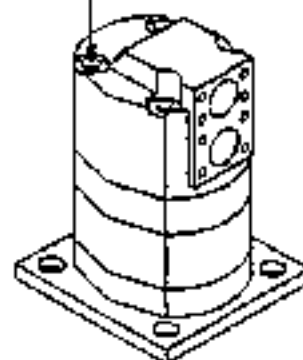

Figure 54
13. Hold the end housing firmly in place and install the four nuts. Torque to 70 to 75 ft. lbs. See Figure 54.